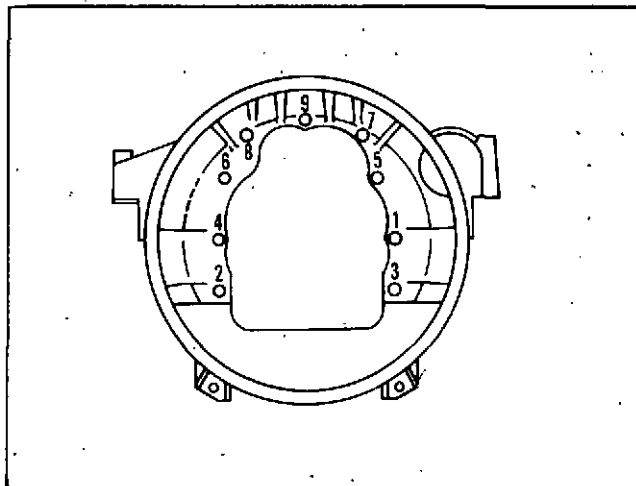

Fig. 14-57. Tightening Sequence For The Flywheel Housing Capscrews.
6. After the readings are within the limits, tighten the capscrews in the sequence given in Fig. 14-57 to 140 to 160 ft.-lbs. [190 to 217 N•m] torque.